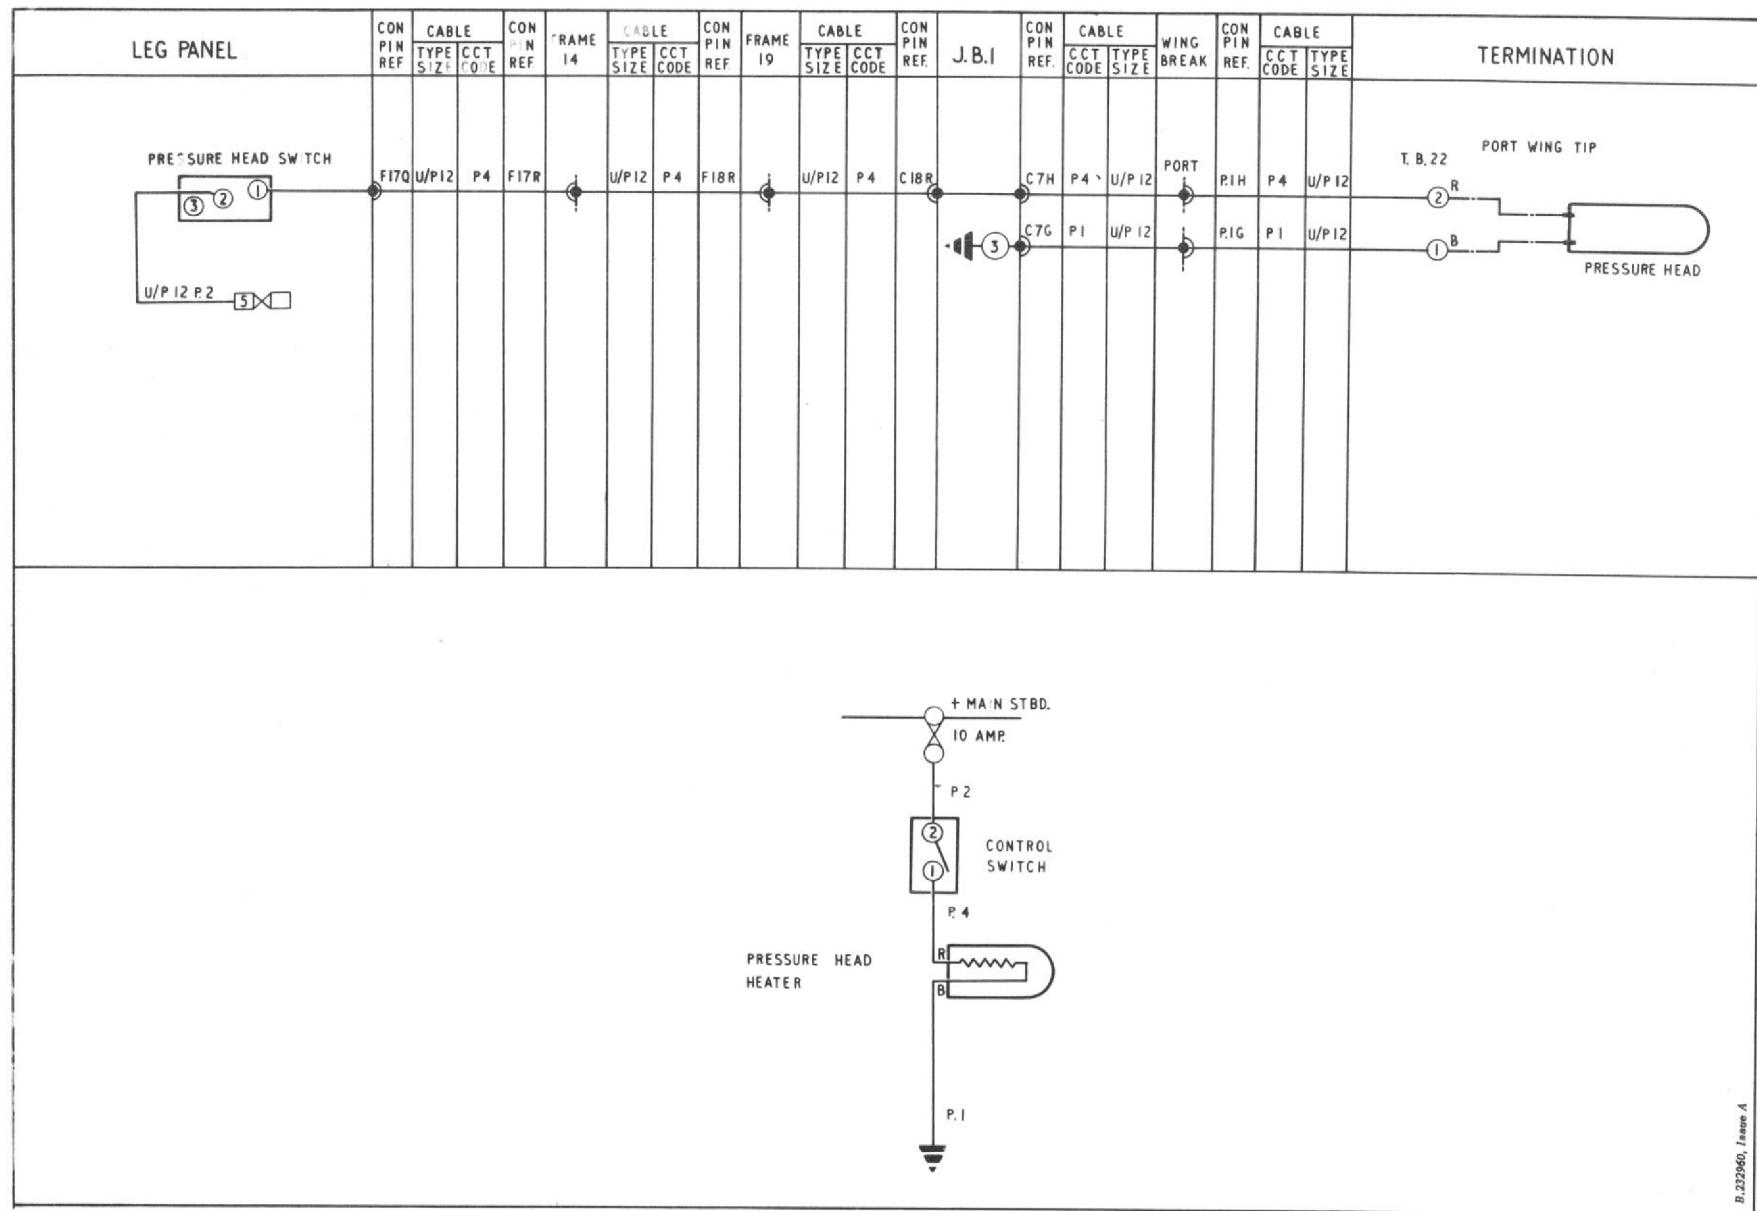

Fig.3 Typical routeing and theoretical diagram
45. Reading theoretical diagrams is a straight-forward matter if a start is made at the fuse or circuit breaker, given at the top of each circuit, and the diagram followed through to the earth point at the bottom. As an example, consider the pressure head heater circuit given in fig.3. From the 10-amp. fuse, the positive supply, referenced P.2, is taken to the control switch, which is a single-pole switch marked OFF and ON. From the switch, the positive supply cable, referenced P.4, passes to the heater element in the pressure head. The negative return from the heater, which is referenced P.1. is connected to earth.
47. Routeing charts are divided into a number of columns, and all circuits commence from the fuse or circuit breaker shown in one of the shelf, panel, or termination columns. As an example of how to read a routeing chart, consider the pressure head heater circuit given in fig.3.